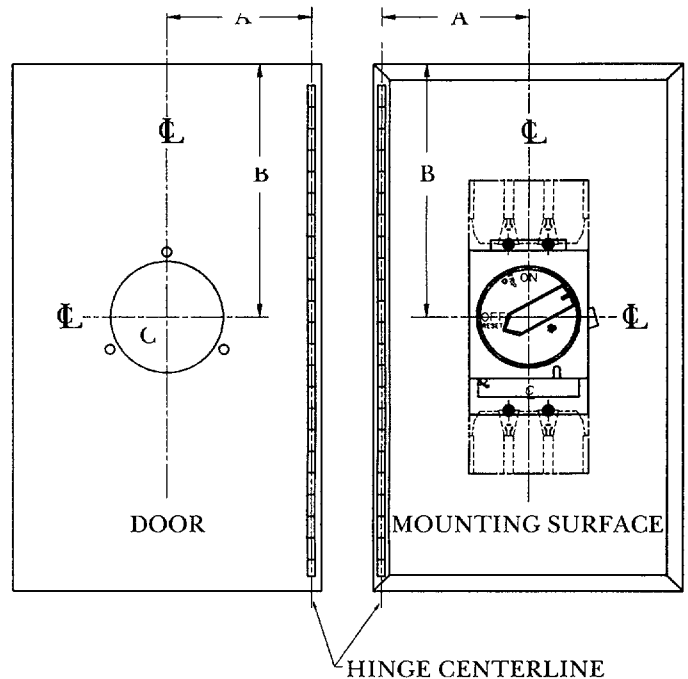

Figure 2.
The horizontal distance from the breaker centerline to the hinge centerline has a minimum distance A, illustrated in Figure 2. Distance A must be equal to or greater than one-half the width of the enclosure door from the hinge side. Preferably, the door hole should be located toward the latch side for better interlock leverage.
A. Locate the center of a circle for the integral handle indication ring on the enclosure door, referring to Figure 2 and the following steps:
2. Assuming the mounting surface of the enclosure and the closed door to be parallel, transcribe dimensions A and B to the enclosure door per Figure 2.